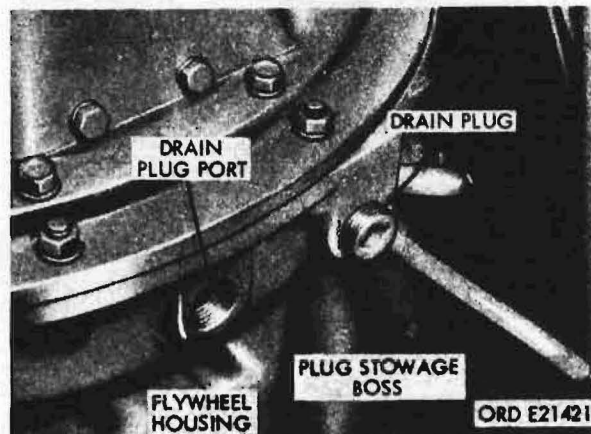

Figure 175. Drain plug and flywheel housing
- (2) Install drain plug in bottom of flywheel housing (fig. 175).